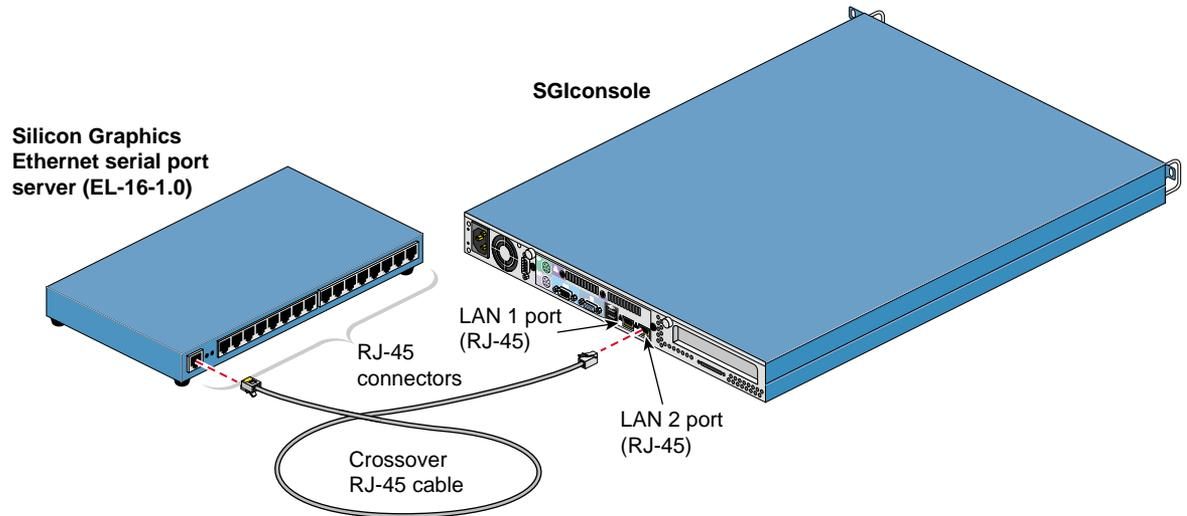

Figure 2-5 Connecting SGIconsole to the Silicon Graphics EL Serial Port Server
4. If you have not already done so, connect one end of the crossover RJ-45 cable to the **LAN 2** port RJ-45 jack on your SGIconsole, and connect the other end to the leftmost RJ-45 jack on the Silicon Graphics EL serial port server. See Figure 2-5.